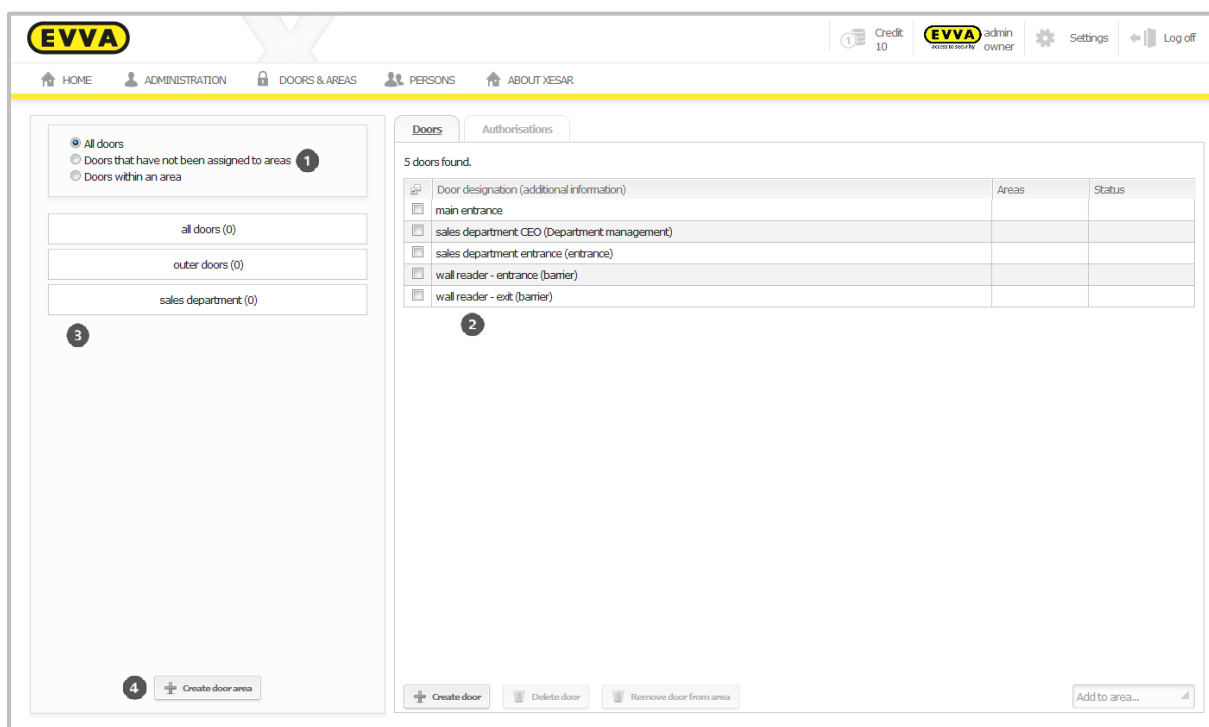

Figure 67: Doors and areas
In the **Doors & areas** section, click the corresponding selection ❶ (select by door) or ❷ (select by area) to open a list of doors and areas which have already been created in the Xesar software and view which doors have been assigned to which areas. You can also assign doors to areas in this section. Create areas to group several doors in categories and facilitate assigning authorisations to make the overall process more transparent. For instance, if you would like to grant one or more persons access to five individual doors, you can group these in an area. Subsequently, all you need to do is assign persons to the area to enable them to unlock the aforementioned five doors. You can create a maximum of 96 areas. It is possible to assign doors to several areas. (Figure 67: Doors and areas)
- Click **Create door area** ❹ (Figure 67: Doors and areas).